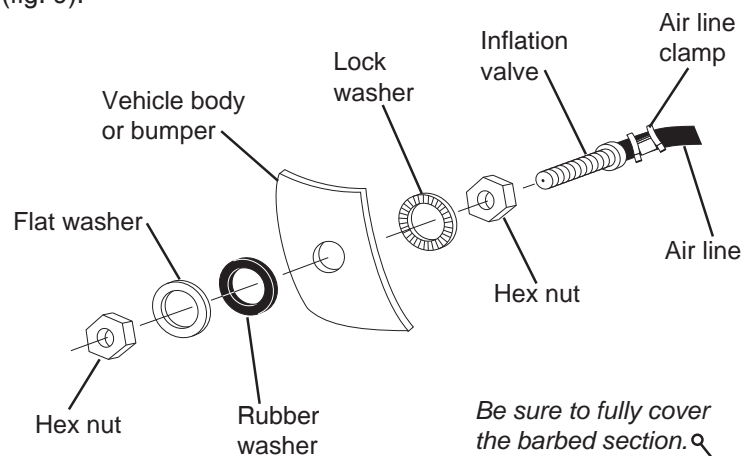

fig. 8
- Drill a 5/16" hole for the inflation valve and mount as shown (fig. 8). The rubber washer serves as an outside weather seal.
7. Drill 5/16 “ hole for inflating valves and mount as illustrated. Rubber washer is for outside weather seal (see fig. 8).